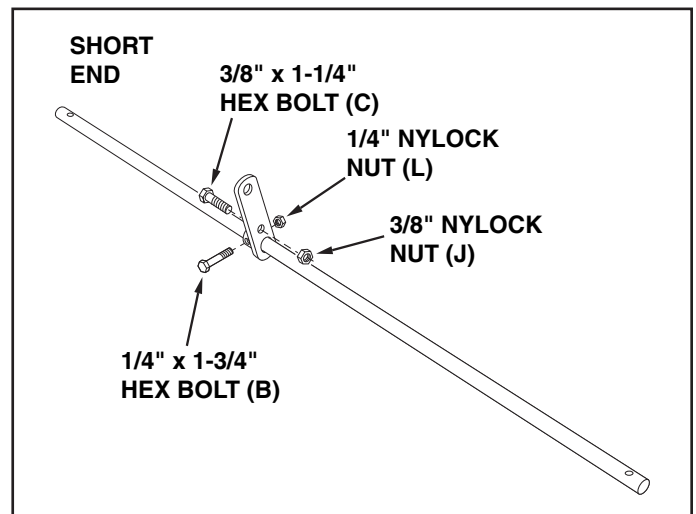
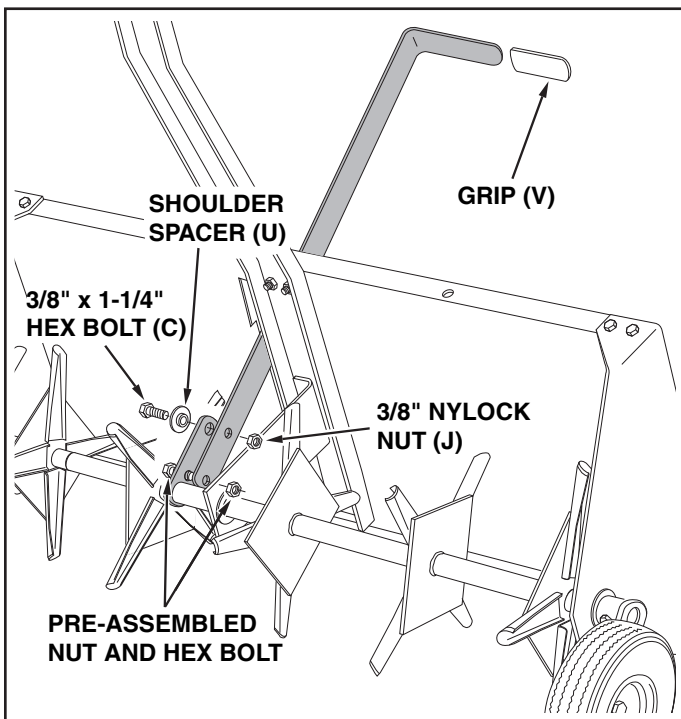

FIGURE 3
FIGURE 12
5. Assemble a wheel bracket to the middle hole in the shaft so that the bracket hub faces the short end of the shaft. Fasten the bracket to the shaft using a 1/4" x 1-3/4" hex bolt and a 1/4" nylock nut. **Tighten**. See figure 3.
6. Pre-assemble a 3/8" x 1-1/4" hex bolt and 3/8" nylock nut to the smaller hole in the wheel bracket. Insert the bolt from the hub side of the bracket. **Do not tighten till step 18**. See figure 3.
18. Place the lift handle through the slot in the tray. Fasten the lift handle to the smaller hole in the middle wheel bracket using the bolt and nylock nut which you assembled earlier (figure 3). Fasten the lift handle to the larger hole in the wheel bracket using a 3/8" x 1-1/4" hex bolt, the shoulder spacer, and a 3/8" nylock nut. **Tighten.** See figure 12.
19. Push the grip onto the lift handle. See figure 12.